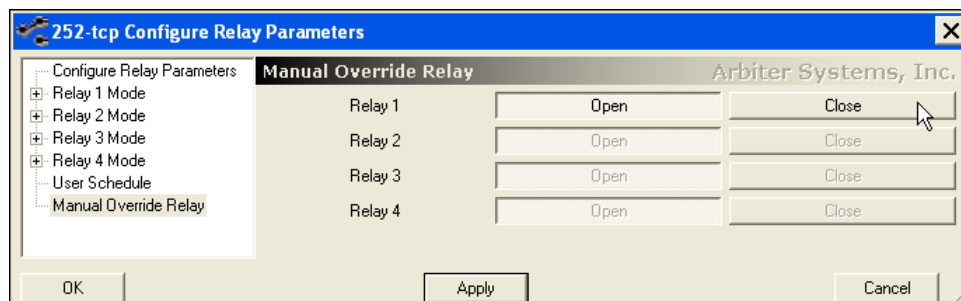

Figure 7.21: Configure Relays for Manual Override Mode
2. When ready to manually switch the relay, select Manual Override Relay at the bottom of the left panel. Click either Open or Close to switch the relay as shown in Figure 7.21.